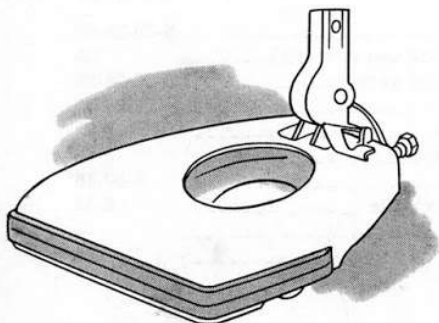

FIG. 16—A main casting assembly
4. Main Casting Assembly. Figure 16.